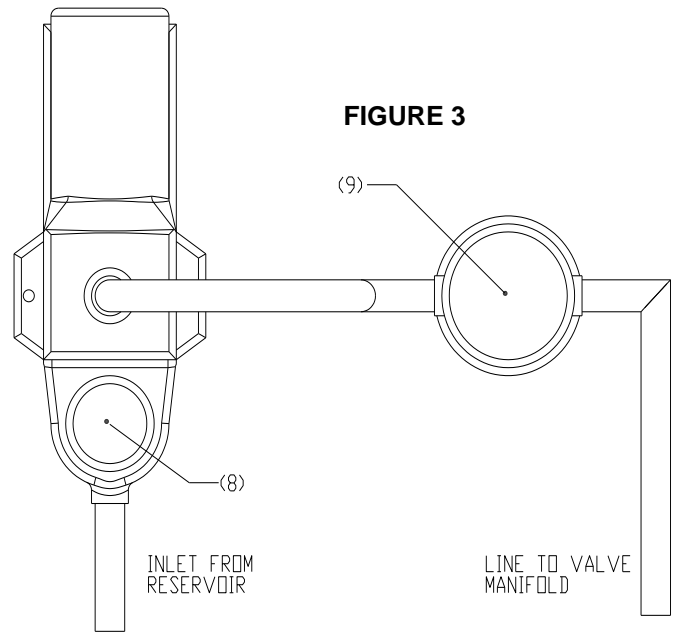

FIGURE 3
7. The ¾ HP Pump (8) and 25sf Filter/Chlorinator (9) should be setup as shown in **FIGURE 3**.
8. The ¾ HP Pump (8) and 25sf Filter/Chlorinator (9) require 1 ½" PVC pipe for both inlet and outlet.
12. The pump for the stand alone version of the WetDek should be wired directly to the control box that comes with the WetDek. **THIS CONNECTION MUST BE DONE BY A LICENSED ELECTRICIAN.** This will regulate when the pump runs in unison with the valves. The pump and controller run off of a 115 Volt power source. The WetDek AquaDirector Controller (1) is rated as a NEMA 3R enclosure, which allows it to be placed indoors or outdoors.